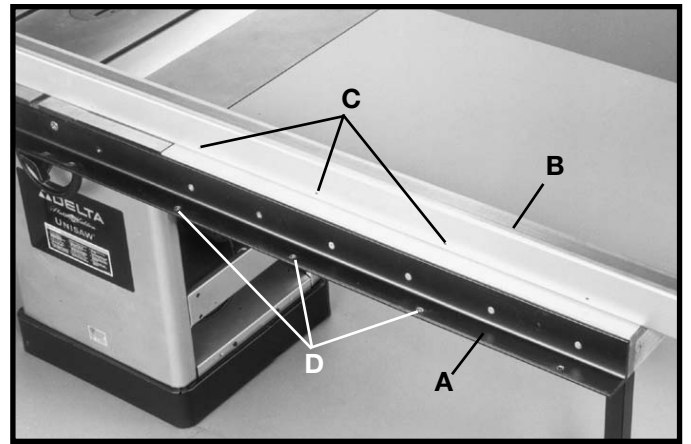

Fig. 20
1. Lay the guide tube (B) Fig. 20, on the saw table as shown, and line up the threaded holes (C) on bottom of guide tube (B) with the through holes (D) on the front rail (A).